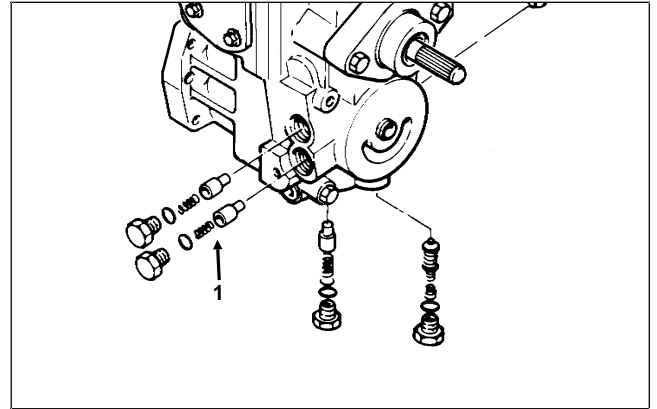

Figure 36
2. Remove the heat exchanger bypass valve hex plug (Fig. 36).